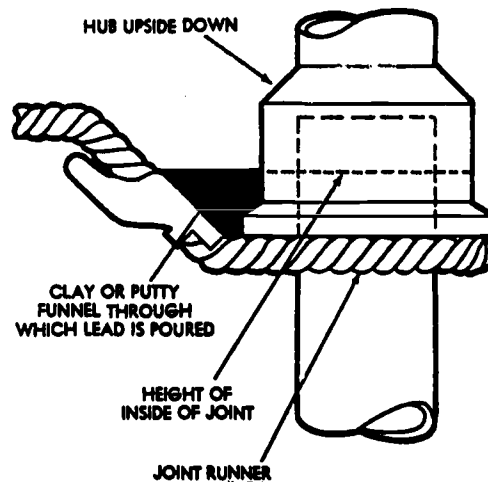

Fig 1-82. Making an upside-down joint.
- **Upside-down caulked joint (fig 1-82):** This joint is prepared in the same manner as explained above. However, as shown in figure 1-82, a funnel is made with clay, putty, or mud. After the pour, the runner is removed while the lead is still soft. The surplus lead left by the runner is trimmed, and then the lead is caulked with a stub caulking iron. This is done while the hot lead is still soft enough to be adjusted against the walls of the hub. It is caulked in the same manner as a vertical joint.